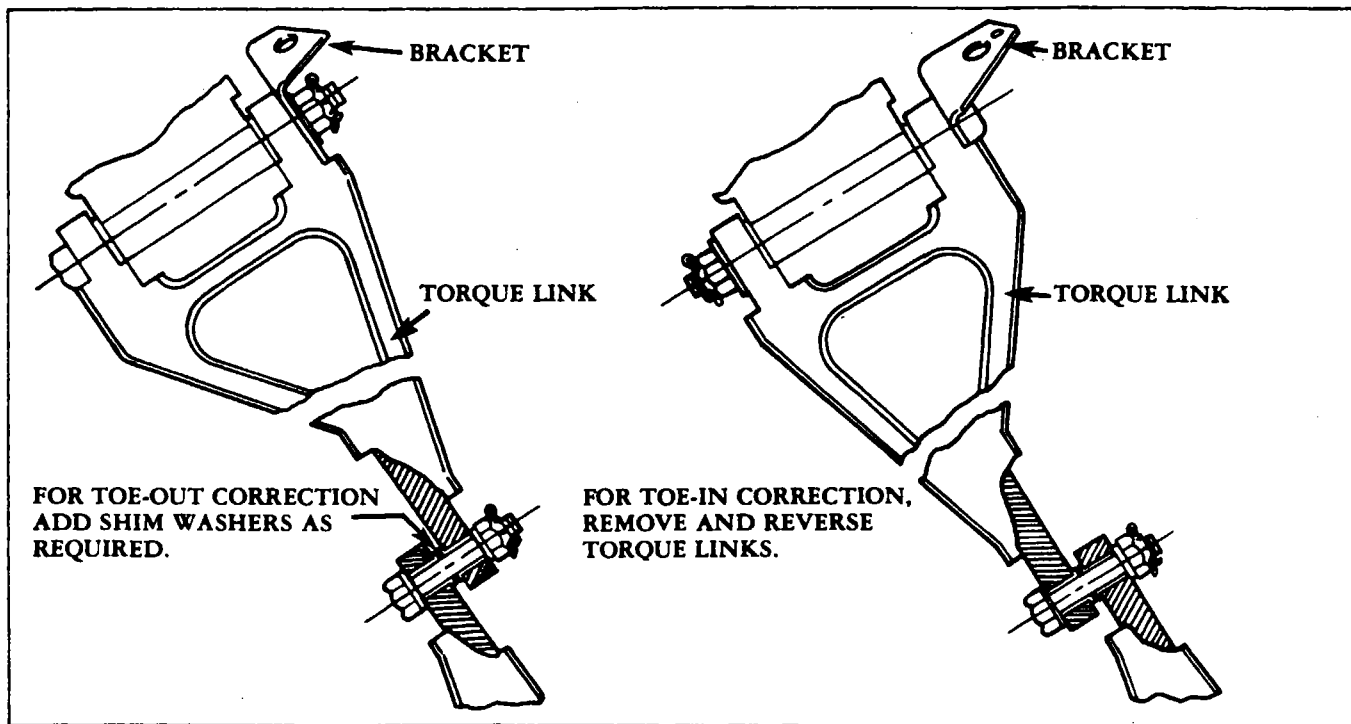

Figure 7-8. Toe-In/Toe-Out Adjustment
- e. Should a condition exist that all spacer washers have been removed and it is still necessary to move the wheel further in or out, then it will be necessary to turn the torque link assembly over. (Refer to Figure 7-8). This will put the link connecting point on the opposite side allowing the use of spacers to go in the same direction.